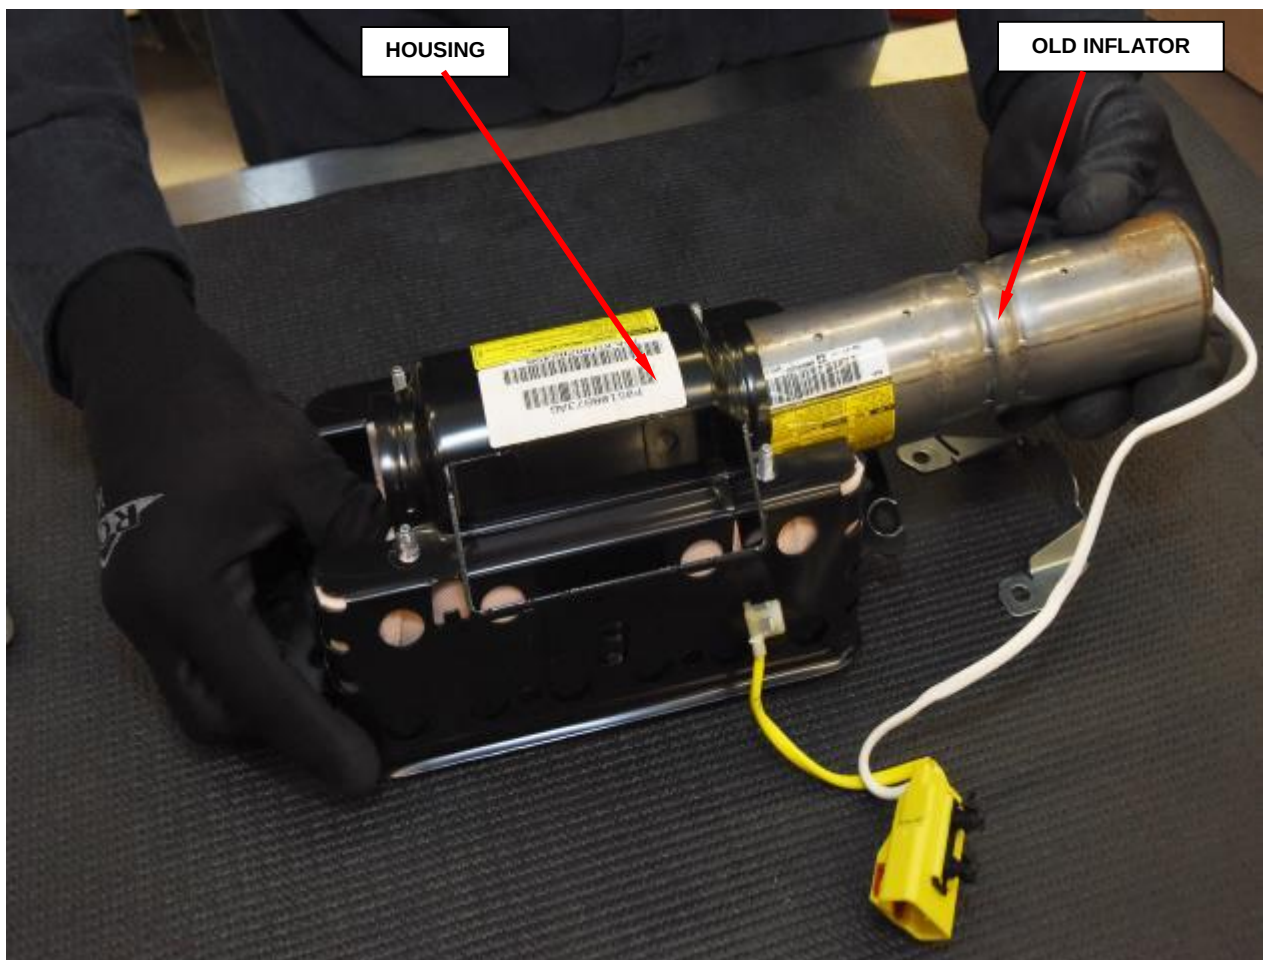

Figure 99 – Passenger Airbag Inflator Removal
- Release the yellow wire harness connector from the inflator housing bracket (Figure 99).